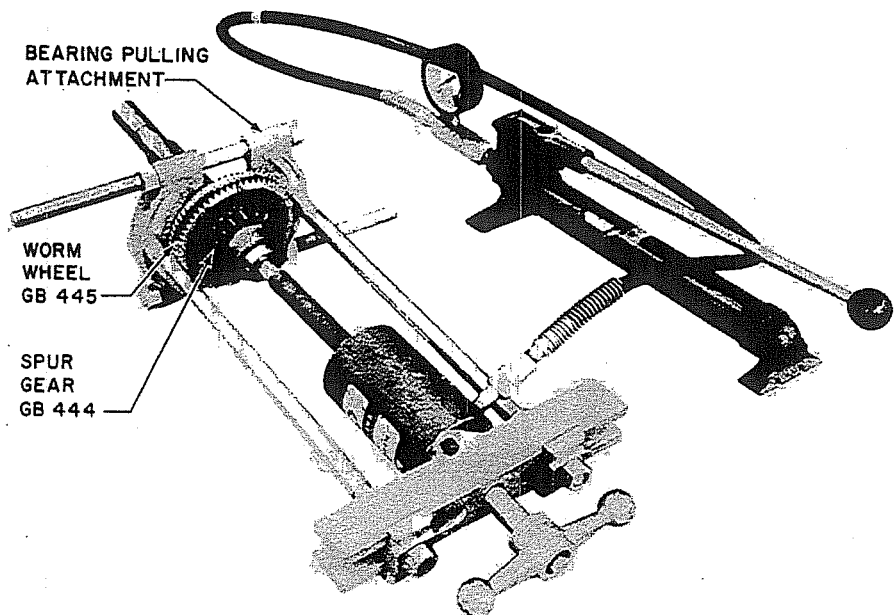

Figure 10. 4 to 1 Shaft, Removal of Worm Wheel GB445 and Spur Gear GB444
- F. Secure the bearing pulling attachment behind Worm Wheel GB445 and apply pressure to the shaft (figure 10). The worm wheel and spur gear GB444 will be removed together. Remove Square Key GB447.